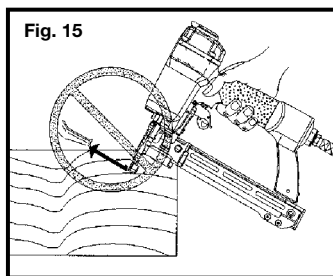

Fig. 15
**23. Fire fasteners into work surface only:** never into materials too hard to penetrate. Fig. 15.
**25. Do not drive fasteners on top of other fasteners,** or with the tool at too steep an angle: the fasteners can ricochet causing personal injury. Fig. 15.